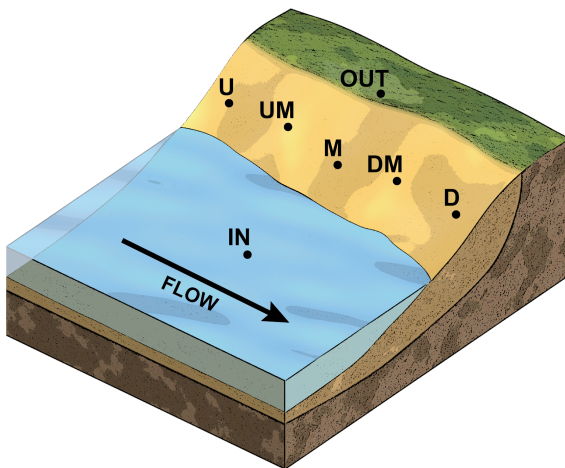

Figure 1. Layout of the idealized iButtons deployment. Sediment samples will be taken near the U, UM, M, DM, and D iButtons (see Figure 2)
After confirming that you have all of the needed gear, identify the five variably inundated locations used for the iButton deployments (Figure 1). They should be the locations marked as U, UM, M, DM, and D. Sediment will not be collected at the always inundated (IN) and never inundated (OUT) iButtons. As in the NEON protocol (NEON.DOC.001193; Jensen, 2019), "The sample strategy for sediment analysis focuses on fine-grained surficial sediments from natural depositional zones during low-flow conditions (USGS, 1994). Surface sediment is considered to range from 1 to 3 cm in depth (Golterman et al., 1983; Keith, 1991)." Sampling should avoid large debris greater than 4 mm in size.